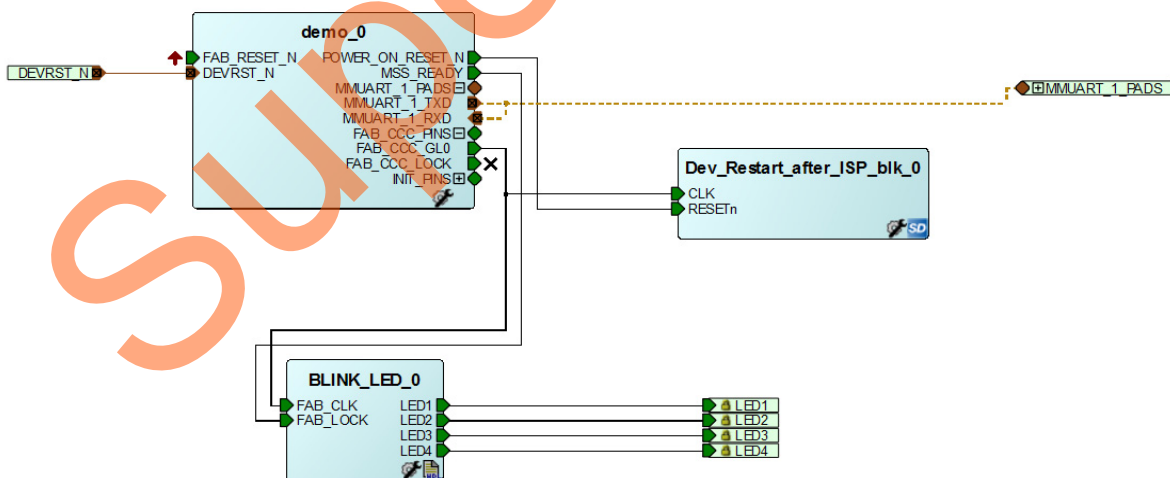

Figure 30 • demo_top SmartDesign
- Make the connection as shown in Figure 30 and generate **demo_top** SmartDesign. This completes the implementation of the workaround.